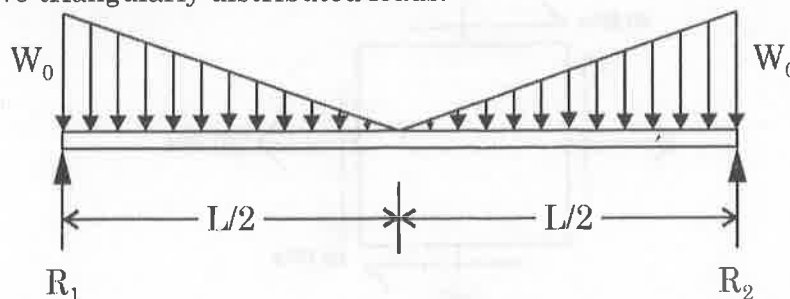

Figure. 4
- Find the midspan deflection δ for the beam shown in Figure 4, carrying two triangularly distributed loads.